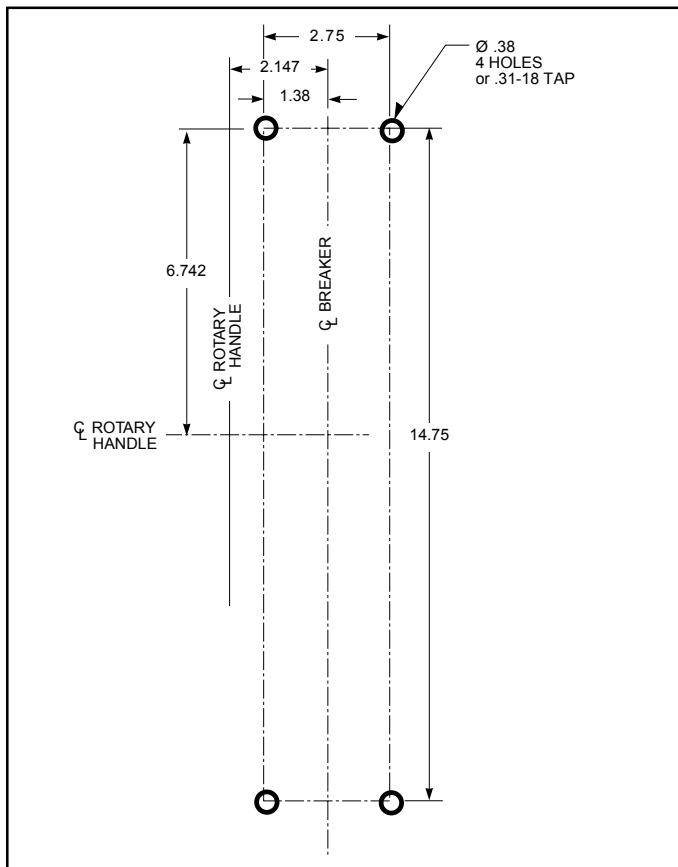

Fig. 2-1 Drill & Tapping Plan for M-Frame Breaker
1. Determine position for circuit breaker in enclosure. Drill and/or tap circuit breaker mounting holes in enclosure mounting surface as shown in Fig. 2-1.